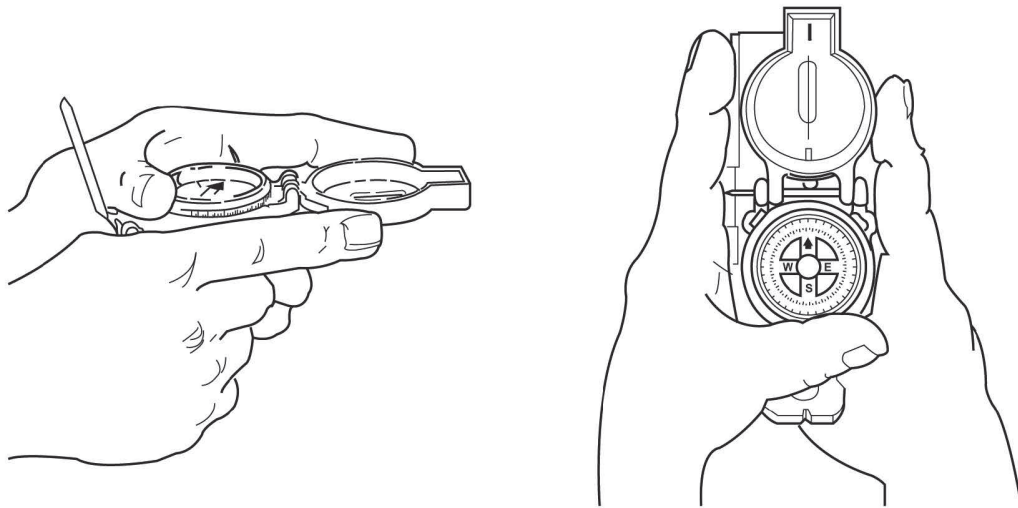

Figure 5. Centerhold technique.
4. Determine an azimuth with the center-hold method (Figure 5).